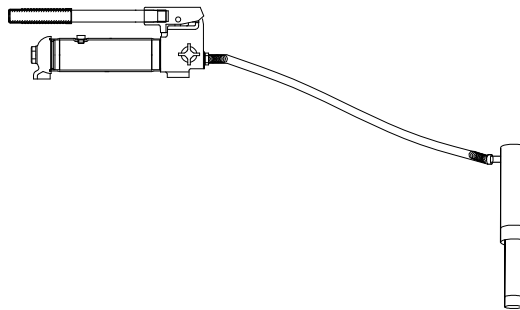

Figure 4 - Pump and ram illustration to bleed air
1. Bleed air from ram: Place pump at a higher elevation than the hose and ram (refer to figure 4). The objective is to "float the air bubbles up hill and back to the reservoir where they belong. Close valve and extend ram as fast as possible. Open valve fully allowing oil and air to return to reservoir. Repeat this procedure two or three times will do the trick.